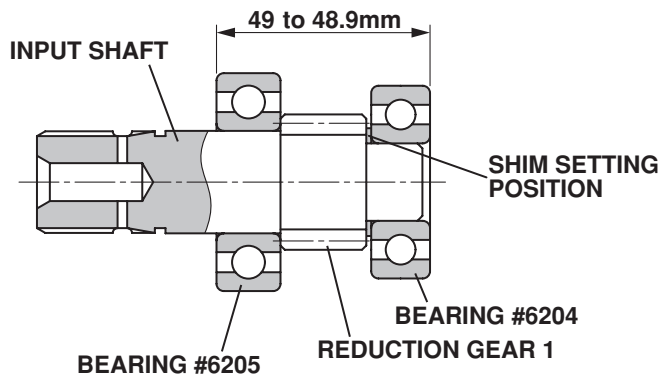

Fig. 10-4
- Pressure-fit the bearings into the input shaft so that the bearing (#6205) is set in the spline side and the bearing (#6204) in the edge face side. Then, insert the shim between the bearing (#6205) and the gear so that the clearance between the two bearings after they have been pressure-fitted is from 49mm to 48.9mm. Two types of shim; 0.3mm thick and 0.1mm thick are available. (See Fig. 10-4.)